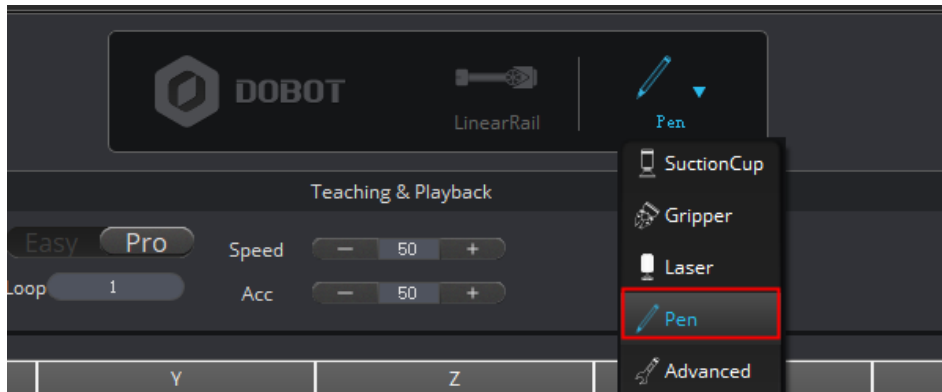

Figure 5.174 Select end-effector
Step 1 Select **Pen** from the end-effector drop-down list on the DobotStudio page, as shown in Figure 5.174.